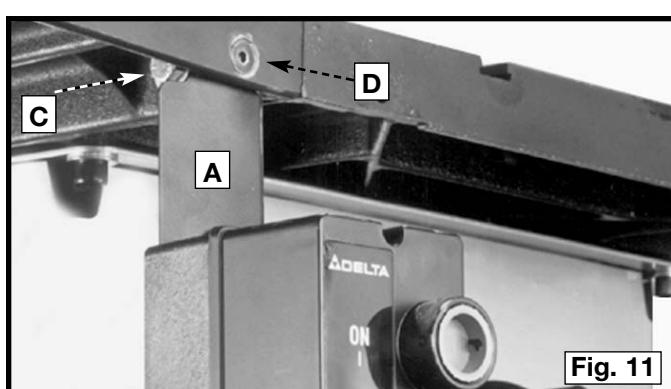

Fig. 11
3. Attach the side of switch bracket (A) Fig. 11 to the inside of the extension table using the 7/16-20x1-1/4" screw (C) and 7/16" flat washer.